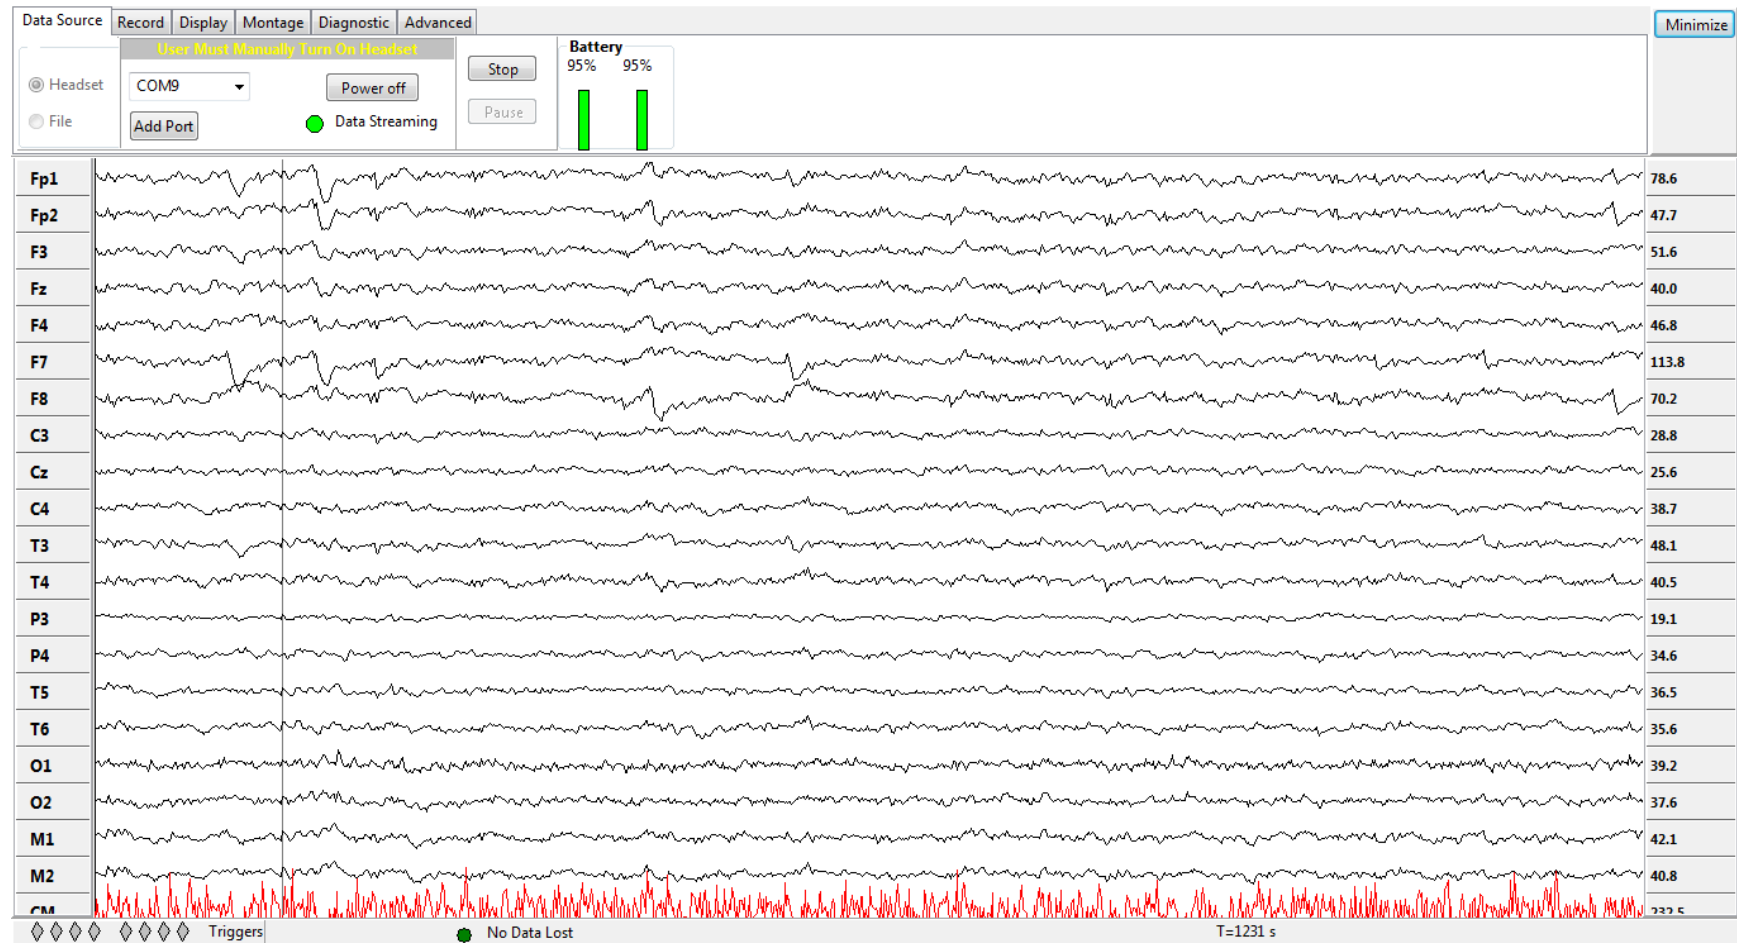

Figure 14 – DSI-Streamer streaming EEG data.
- Each EEG channel is plotted to the right of its name (Figure 14).
- The status of the **Trigger** inputs are indicated by diamonds shown in the bottom left of Figure 14, one for each trigger input.